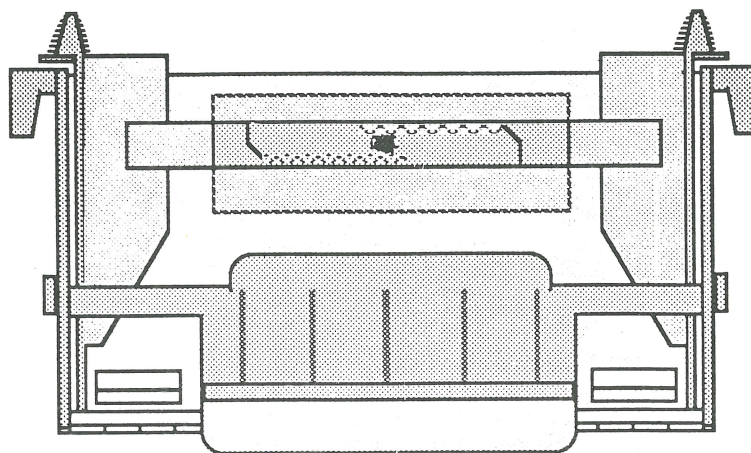

FIGURE 5
- SF-IPL.7 Envelope Hopper (Figure 5)
☐ **ENVELOPE HOPPER (Figure 5)**